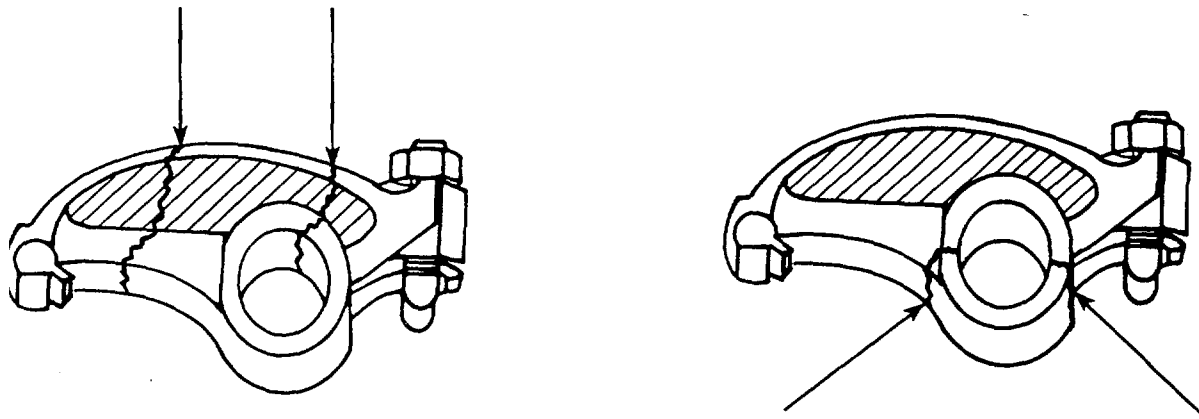

FIGURE 3-21. Crack Inspection Areas.
- (1) Use magnetic inspection to check the rocker arms and rocker levers for cracks. Use coil magnetization with amperage at 300 to 500 with residual Magnaglo. Special attention should be given to the areas indicated in Figure 3-21.